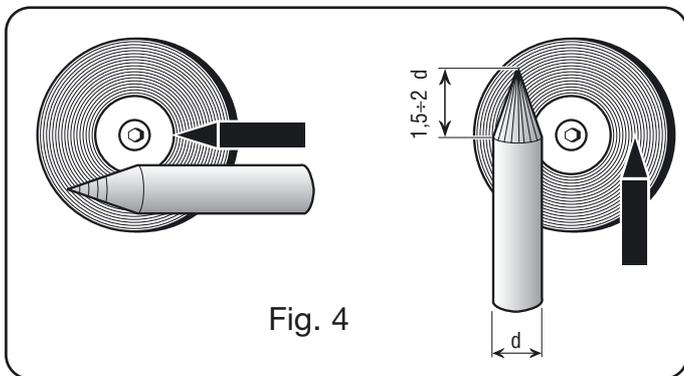

Fig. 4
Be especially careful when preparing the electrode tip. Grind it so that it has vertical grooves as shown in fig.4.
- Grind the end of the tungsten electrode into a tapered shape, for a length equivalent to approximately 1.5-2 times the electrode diameter. (fig. 4).